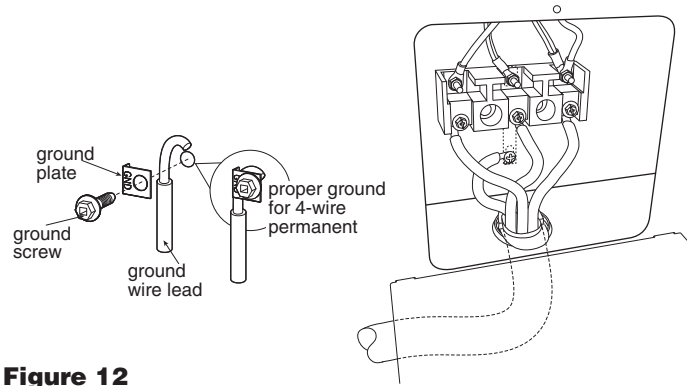

Figure 12
- 4 Connect the green ground wire lead to the frame of the range using the ground screw and plate as shown in Figure 12. Be sure to install using the same hole in the frame where the ground screw was originally installed.